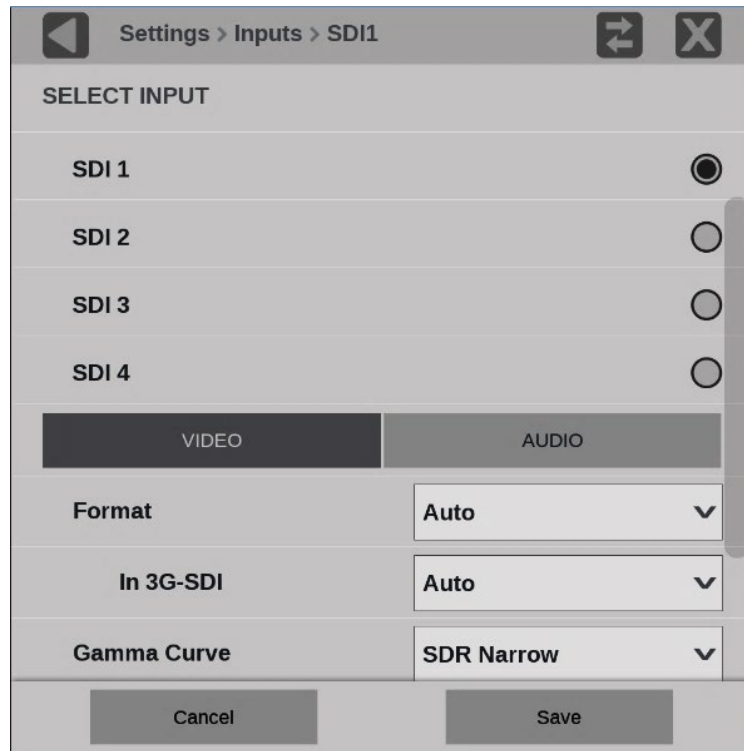

Figure 29: Settings inputs submenu
3. Select an SDI input. (See Figure 29.)